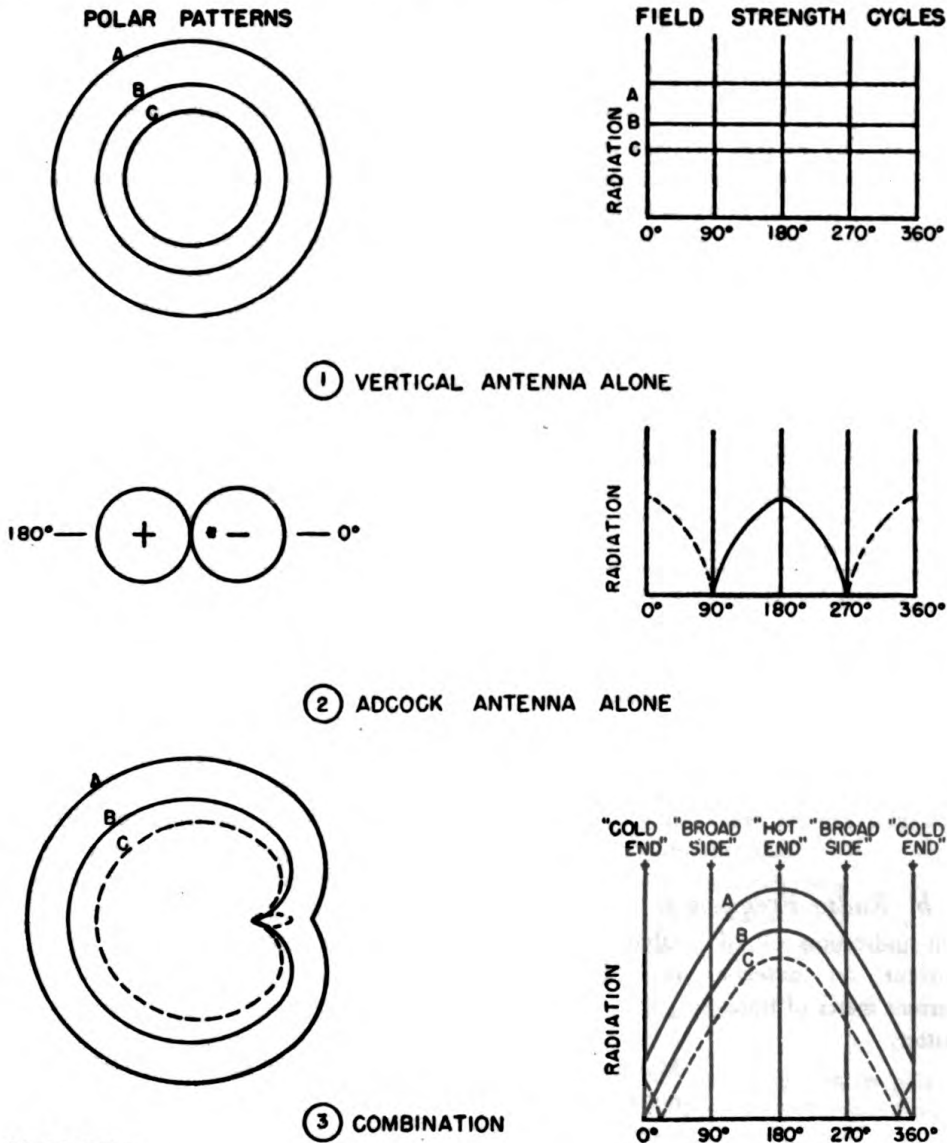

Figure 39. Antenna pattern.
*b.* The beacon antenna system combines a vertical antenna, which has a circular or non-directional radiation pattern and an H type Adcock antenna, which has a figure eight radiation pattern, to produce a cardioid, or heart shaped radiation pattern (③ fig. 39).
*c.* A perfect cardioid pattern would be produced if the maximum radiation from the vertical and Adcock were equal as shown by curve B (③ fig. 39). In this case the minimum of the combined radiation would be zero. In practice, the vertical antenna is adjusted to radiate a little more strongly than the Adcock. If the Adcock radiation were the stronger, as indicated by curve C, ③ figure 3, the pattern would be a lop-sided figure 8 with two minimums close together.